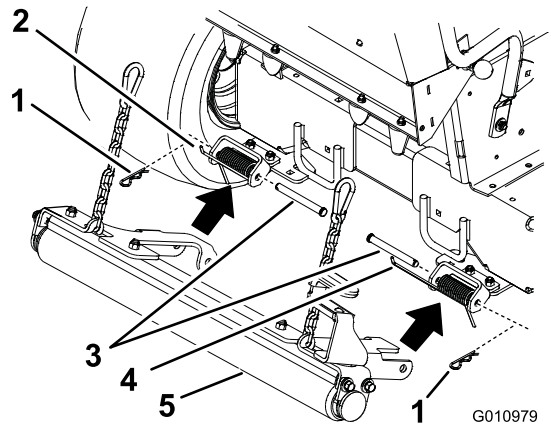

Figure 5
2. Position the roller assembly into the stripper mounting brackets (Figure 5).
3. Insert the clevis pin through the stripper mounting bracket, roller mount and spring and secure it with a hairpin cotter pin (Figure 5).